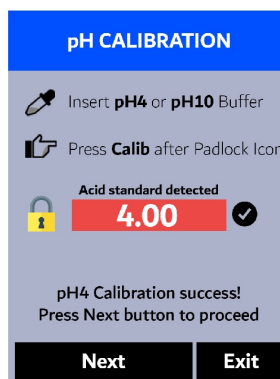

Figure 45.
15. If the calibration succeeds, a checkmark () and a "pH4 Calibration success!" or a "pH10 Calibration success!" message will appear (Figure 45). Otherwise, a warning message is displayed.